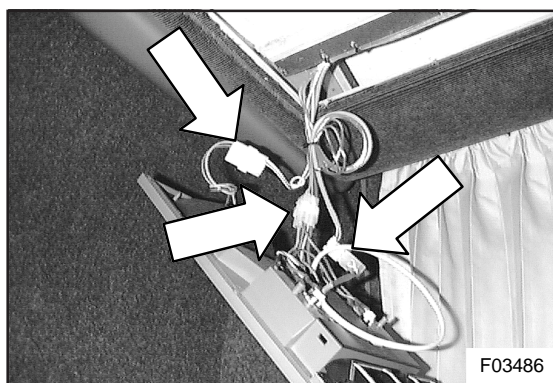

Figure 7: Passenger light and ventilation control panel terminals
4. Mark and disconnect the control panel terminals (see Figure 7).